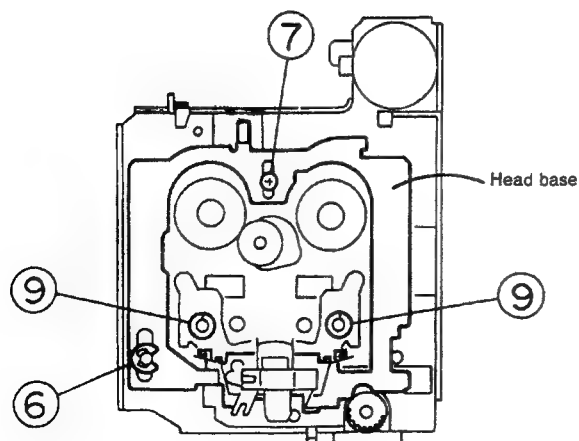
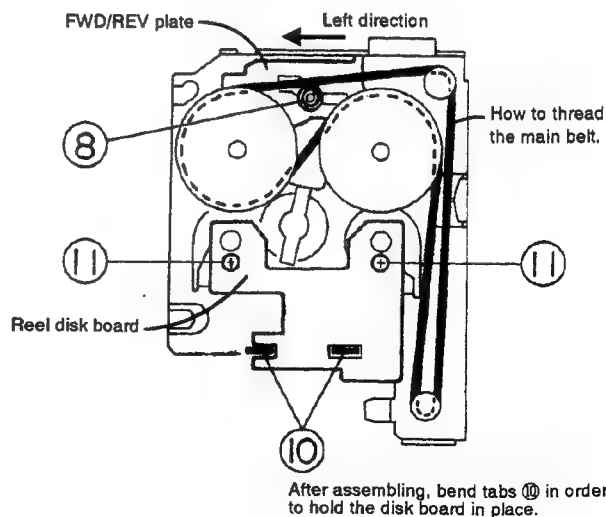
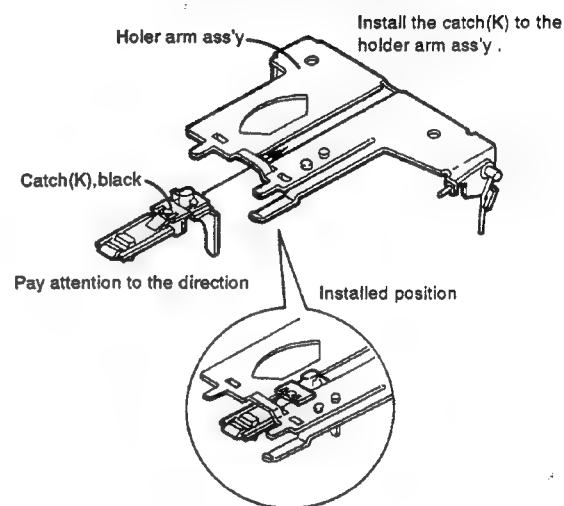

Fig. 4-18
Fig. 4-19
Fig. 4-20
■ Head base (See Figs. 4-18 and 4-19)
- 3) Remove the E washer ⑥ from the left shaft of the pinch roller.
- 4) Remove screw ⑦ for the head base.
- 5) Turn the head base upside down, then remove the C washer ⑧ securing the collar which secures the FWD/REV plate (the collar can also be removed.) (At this time, if the main belt is removed, operation will be made easier.)
■ Flywheel ass'y (See Figs. 4-18 and 4-19)
- 3) Remove two C washers ⑨ attached to the capstan shaft (remove both the right and left washers).
■ Reel disk board ass'y (See Fig. 4-19)
- 1) Straighten the bent tabs ⑩ holding the reel disk board.
- 2) Remove two screws ⑪ fixing the reel disk board.
■ How to assemble the cassette holder and sub chassis (See Figs. 4-20 through 4-23)
■ How to assemble the cassette holder and sub chassis step1. How to Install the catch (K)